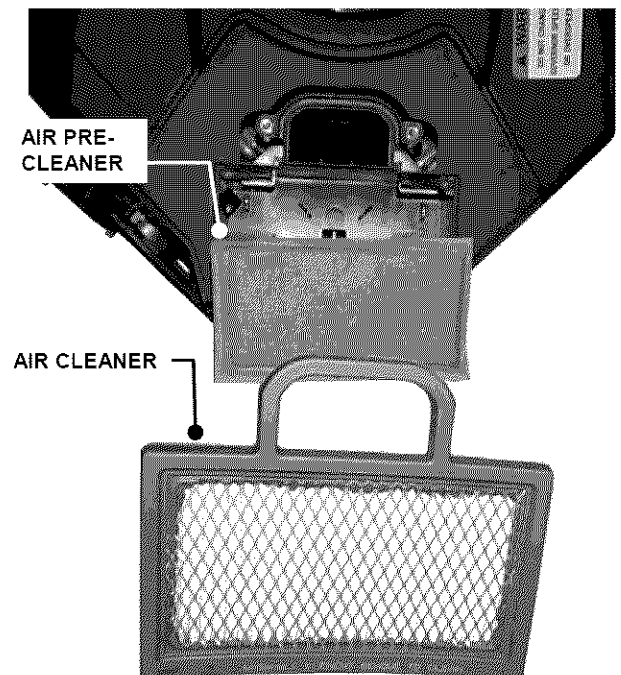

FIGURE 3.5
- Refer to engine owner's manual for cleaning and service instructions. Remove and clean engine air pre-cleaner. Remove and replace engine air cleaner. See Figure 3.5. Install pre-cleaner and air cleaner per engine owner's manual.
b. Refer to engine owner's manual for cleaning and service instructions. Remove and clean engine air pre-cleaner. Remove and replace engine air cleaner. See Figure 3.5. Install pre-cleaner and air cleaner per engine owner's manual.